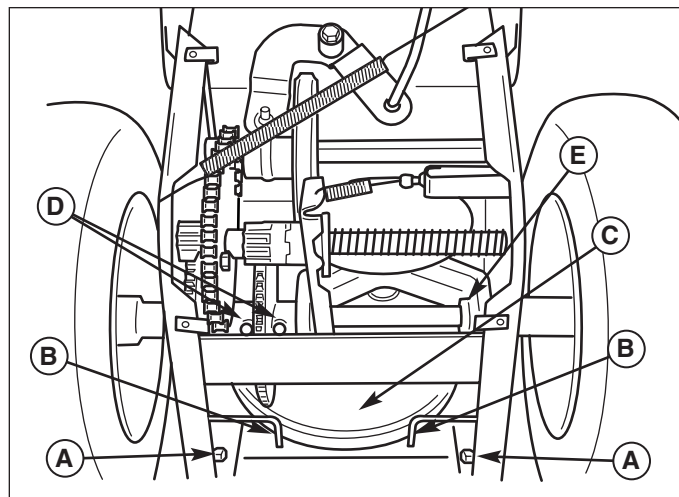
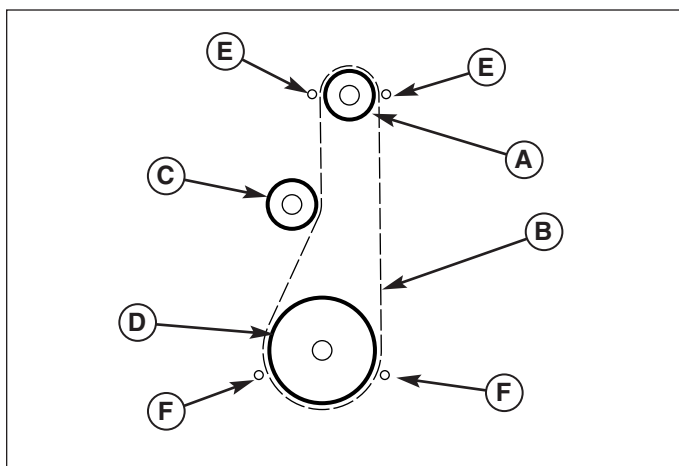

Figure 30. Auger Pulley Belt Stops (shown with bottom cover removed)
Figure 31. Belt Pattern (viewed from front)
- c. Remove six capscrews from bottom cover to snowthrower frame. Loosen nuts (A, Figure 30) on each side to release auger pulley belt stops (B). Move belt stops and remove belt from pulley (C).
- d. Remove the two bolts (D, Figure 30) from the gear assembly.
6. Reverse the procedure to install the belts. Be sure there are no twists and the belts are properly seated in the grooves. Adjust the belt stops so there is 1/8" (3mm) clearance between belt and stop. The pattern for both belts is shown in Figure 31. Slide the right axle left fully before tightening the set collar (E, Figure 30).